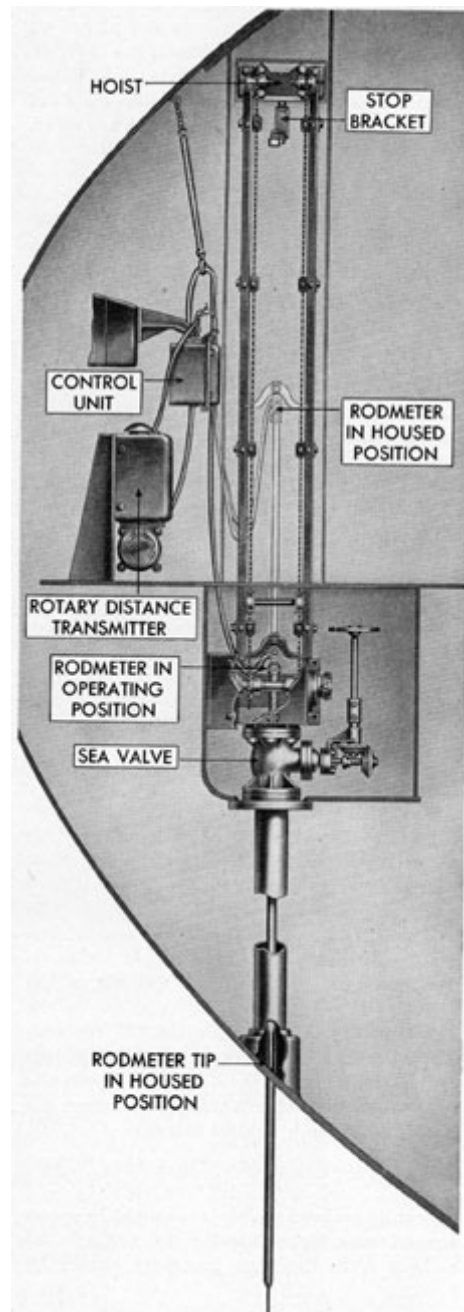

Figure 2-7. Rodmeter and hoist installed.
**2C3. Rodmeter hoist.** Submarines are equipped with either one of two types of rodmeter hoist (Figure 2-7) for raising and lowering the rodmeter. One type consists of a double sprocket and roller chain arrangement, and the other type is a single chain and